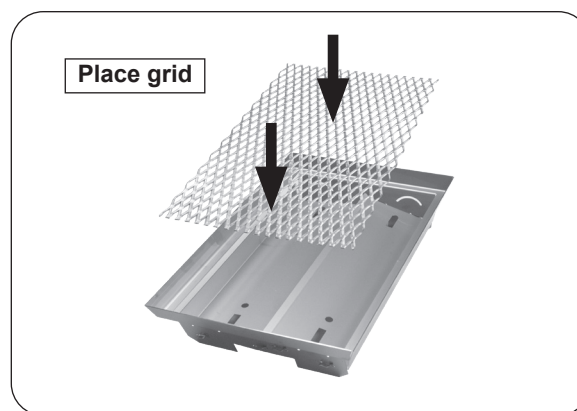

Fig. 37-2 Place grid inside basket
1. Place grid inside the basket frame (see Fig. 37-2).